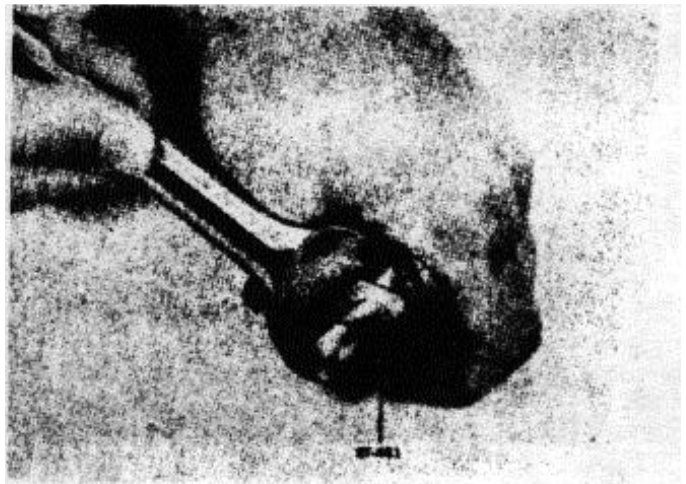

Figure 4-20. Removing sleeve assembly
2. Use ST-481 nut spanner wrench and unscrew the sleeve assembly from the body. Fig. 4-20.